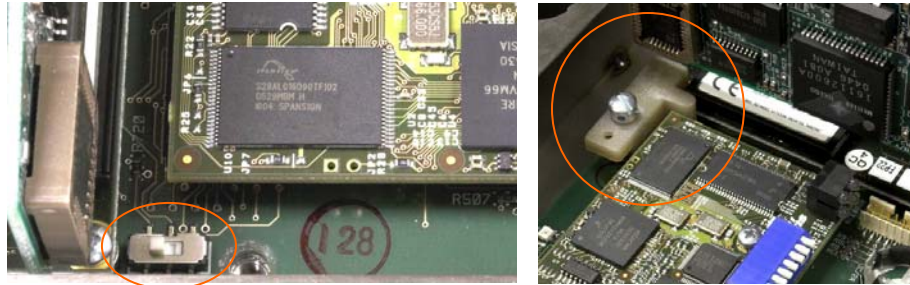

Figure A-92: Metrology Security Switch (left) and Cover Installed (right)
2. Install the Security Cover to prevent access to S1, the Metrology Security Switch indicated in Figure A-92, Main PCB Switches.